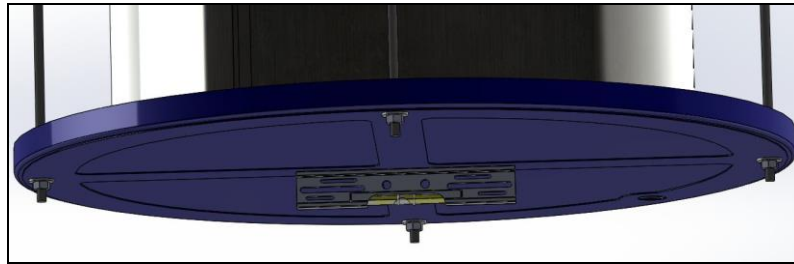

Figure 6: Correct level placement
- 7) Once the platform is secured to the structure, check to ensure the water heater is level by placing a level directly between two rods on the bottom of the platform as shown in Figure 6. Tighten the bottom nuts as needed to level the platform. Turn the level 90 degrees so that it is facing the other two rods and tighten bottom nuts as needed.